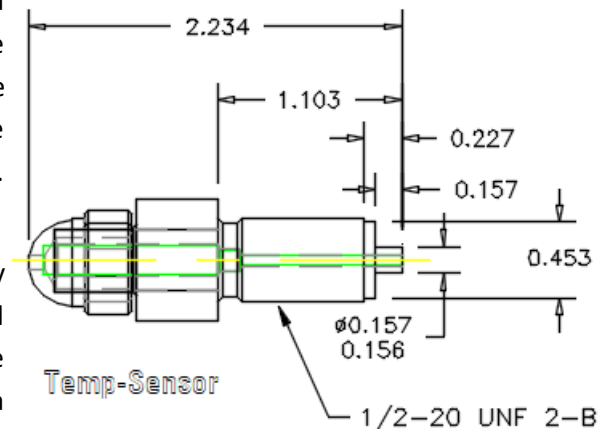
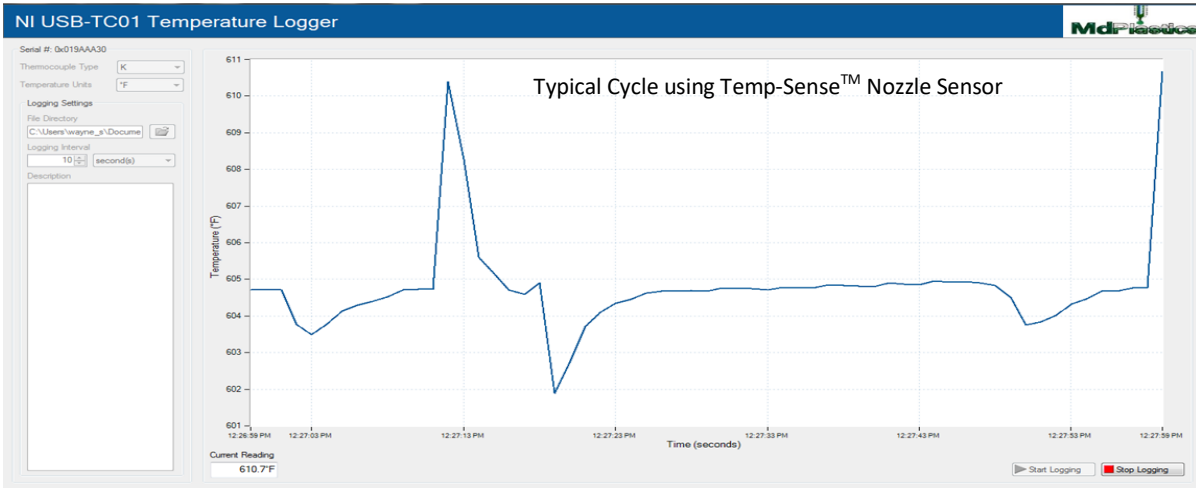

Fig. 1 (Nozzle Sensor)
Fig. 2
The Temp-Sense™ Melt sensor Fig. 1 takes the applied pressure (P) by the melt and measures the work applied to the polymer. The actual thermocouple meter readout displayed in our 603 DAQ unit shows the thermal energy being imparted to the polymer instantaneously for a unique "LOOK" Fig. 2, into the barrel.
- I. One stand alone 603 DAQ capable of reading two sensors . One Temp-Sense™ Nozzle Sensor (shown in fig. 1, 3).